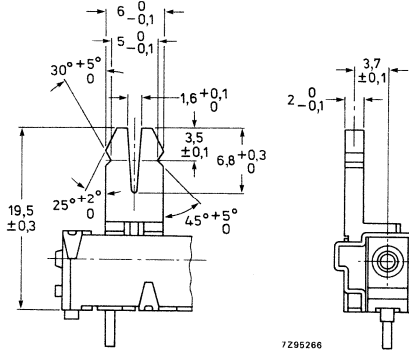

Fig. 5 Dimensions of long slider knob.
* For dimensions see types of slider knobs, Figs 5 and 6.